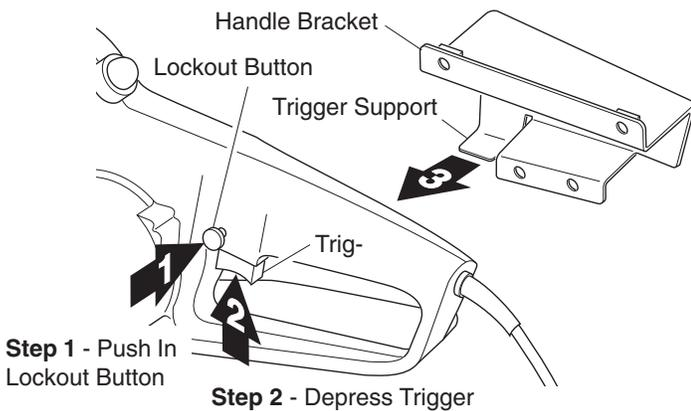
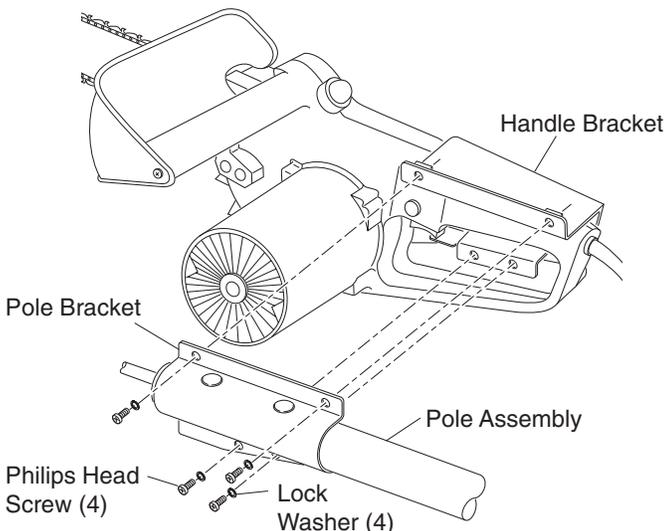

Figure 1 - Attaching Handle Bracket to Chain Saw Handle
Figure 2 - Attaching Pole Saw Bracket to Handle Bracket
1. Push in and hold trigger lockout button. Squeeze and hold trigger. (see Figure 1, Steps 1 and 2)
2. Continue to hold trigger while sliding the handle bracket onto chain saw handle (see Figure 1, Step 3). The trigger support on the bracket will hold the trigger in the "ON" position (see Figure 2).
3. Attach pole assembly to chain saw. Align the holes in the pole bracket and handle bracket. Using four Philips head screws and lock washers provided, insert screws through lock washers and holes in pole bracket. Tighten screws securely with screwdriver into weld nuts of handle bracket (see Figure 2).